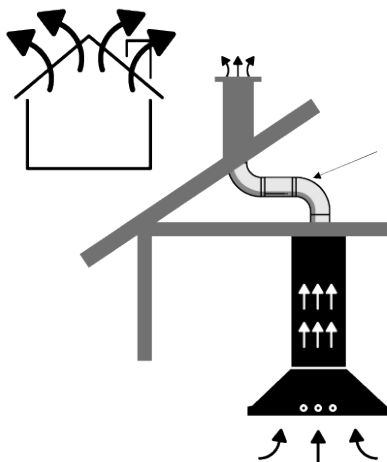

Fig. 3. The hood as an extractor
**When choosing an extractor, i.e. an open circuit (Fig. 3), Exhaust air must not be directed to a chimney carrying fumes or smoke, or to a ventilation duct of the rooms where incinerators are located.**